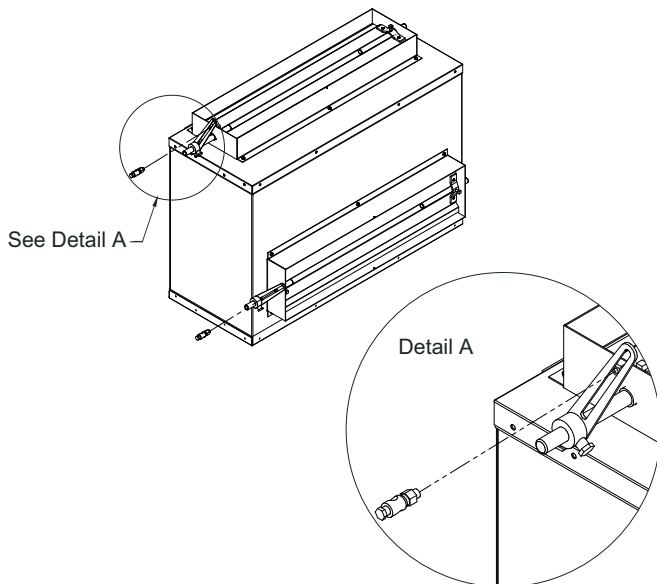

Fig. 13 — Install Swivels
5. Install swivels to crank arms and hand tighten. (See Fig. 13.)